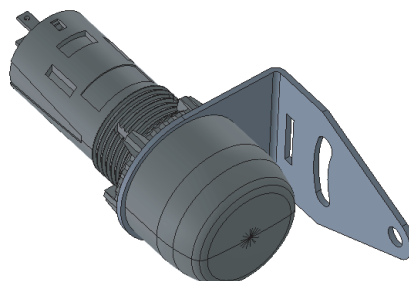
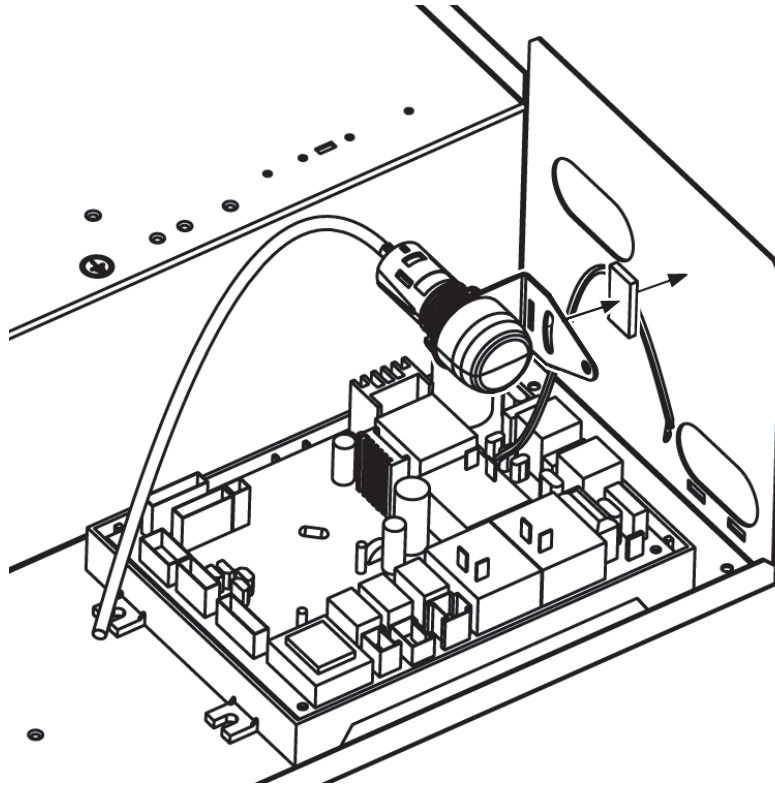

Figure 3. Buzzer Attached to Mounting Bracket
Figure 4. Securing Buzzer Bracket to Enclosure
- 1) Attach the buzzer to the mounting bracket as shown in Figure 3.
- 2) Prepare the buzzer by loosening the (2) screws using the Philips 1 screwdriver.
- 3) Install the (2) spade connectors into the buzzer and tighten the screws to secure the wiring harness in place.
- 4) Secure the buzzer as shown in Figure 4 using the included adhesive tape.